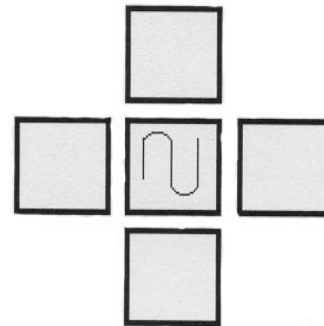

Fig.7a Jog Keys
- (iii) Redraw the jog keys, Fig. 7a, into your answer book. Label the correct direction **-X**, **+X**, **-Z** and **+Z** on each key.